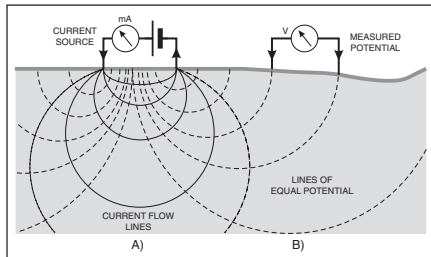

Fig.2. How current flowing between two probes is detected by a second pair.
Most of the favoured ones all use four probes – two for transmission (TX), and two for reception (RX). The righthand section of Fig.2 shows one way in which the second pair of probes can be used. Anthony Clark says that there are also some techniques that use five probes – with push-pull TX across two and the fifth becoming a grounded reference perhaps?